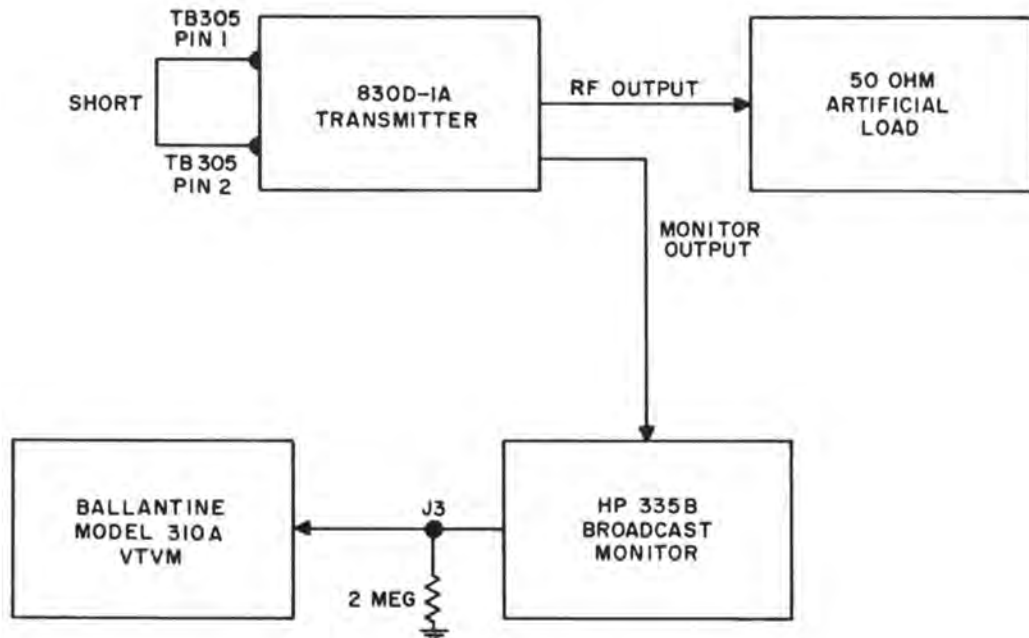

Figure 5-5. AM Noise Test Setup
a. Refer to figure 5-5. Short out terminals 1 and 2 of terminal board TB305. Connect a vacuum tube voltmeter to connector J3 of the Hewlett-Packard Model 335B broadcast monitor. Connect a 50-ohm artificial load to the r-f output connector located on top of the transmitter cabinet. Turn on the transmitter.